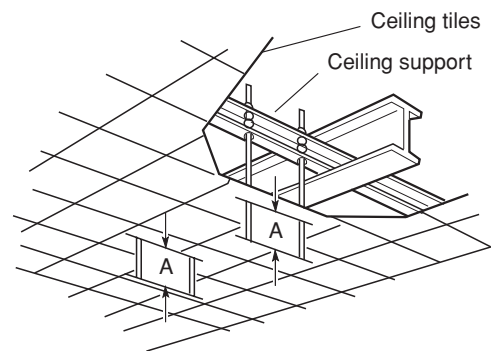

Fig. 3-39
- b) Use existing ceiling supports or construct a suitable support as shown in Fig. 3-39.